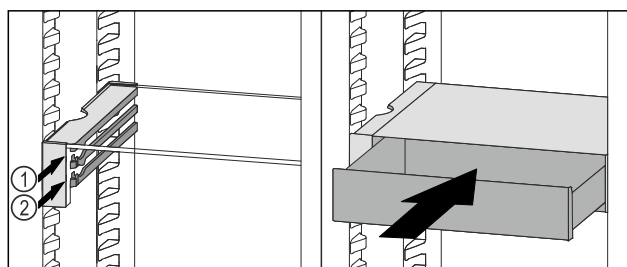

Fig. 114
- Place the VarioSafe drawer behind the stoppers on desired rib Fig. 114 (1) or Fig. 114 (2).